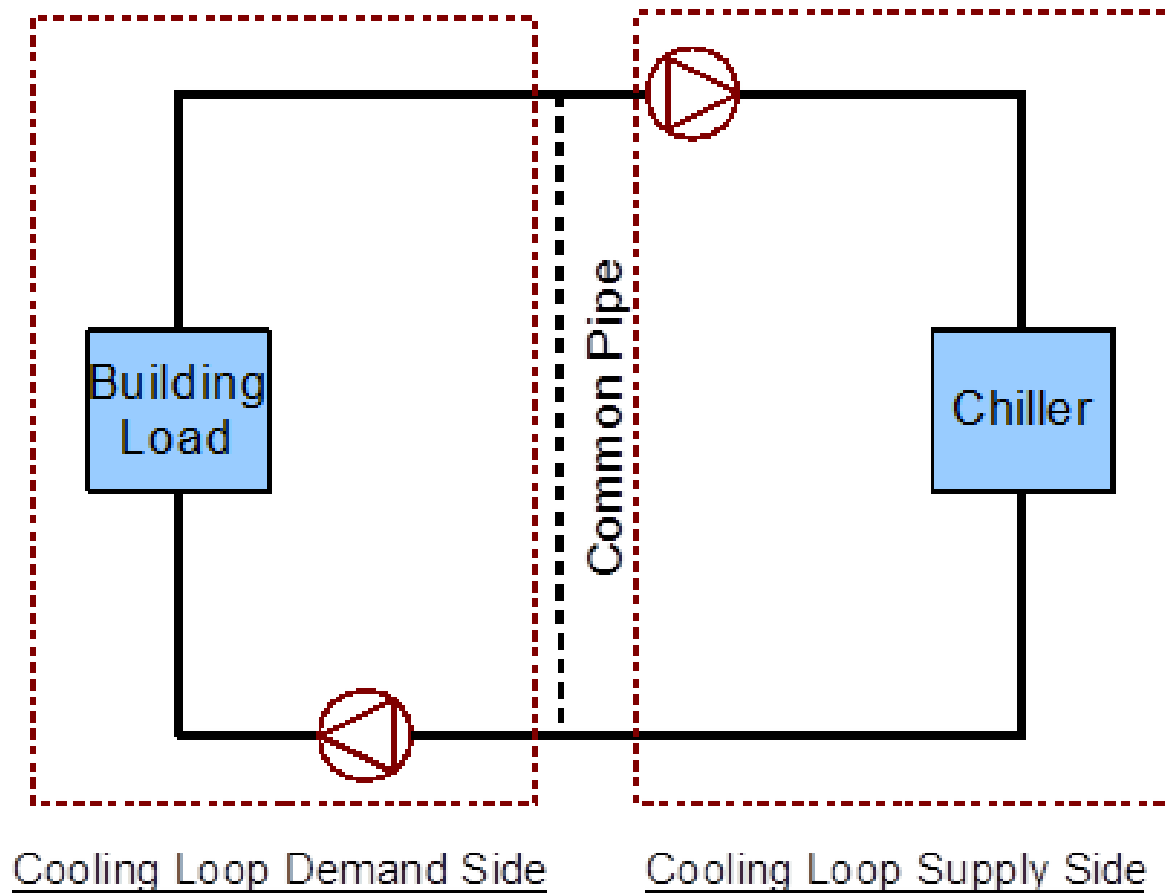

Figure 4.3: Breakdown of a loop into its constituent half-loops
3. **Identify the demand side and supply side of the loop.** The half loops are depicted in Figure 4.3.